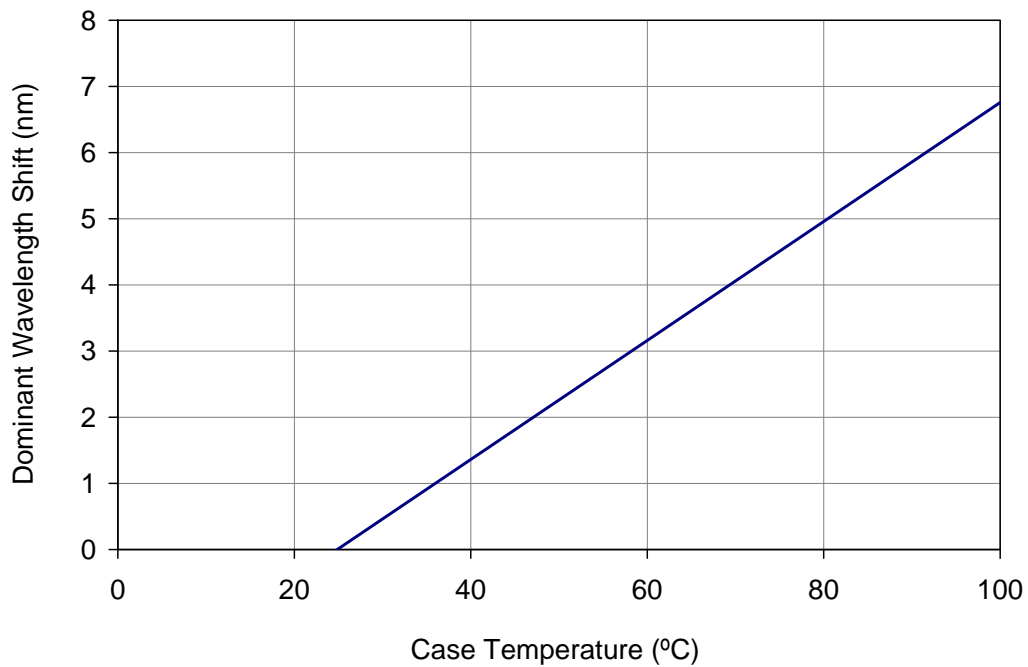

Figure 6: Typical dominant wavelength shift vs. case temperature.
- Amber LEDs have a significant shift in wavelength over temperature; please refer to Figure 6 for details. Caution must be exercised if designing to meet a regulated color space due to this behavior as product may shift out of legal color space under elevated temperatures.